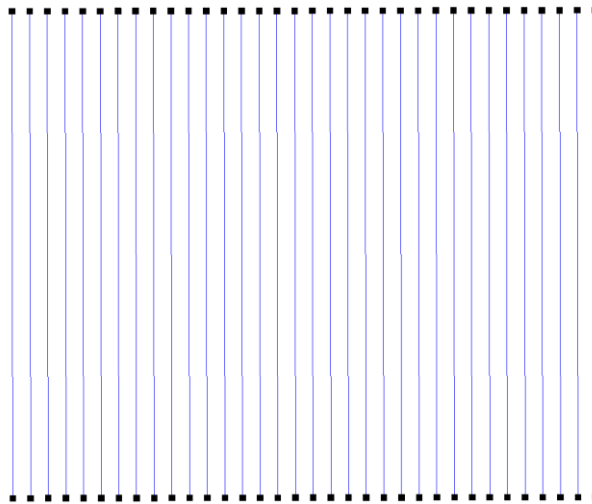

Figure 4-25
6. Now move the cursor to the bottom left of the screen and draw the outline of the block: left-click then draw a line upwards for **165ft (50m)** as seen on the status bar **d=165 (50)** (approx.). Left-click the mouse to place the line at this point, and then continue drawing the block area by going **200ft (60m)** to the right and left-click. Now proceed downwards for **165ft (50m)** left-click then *Right-click/Close* after the third point has been placed. This will close the lasso, and complete the tape block. The block will automatically fill with tapes **6ft (2m)** apart. Select *View/Zoom All*. The block should look similar to Figure 4-25.